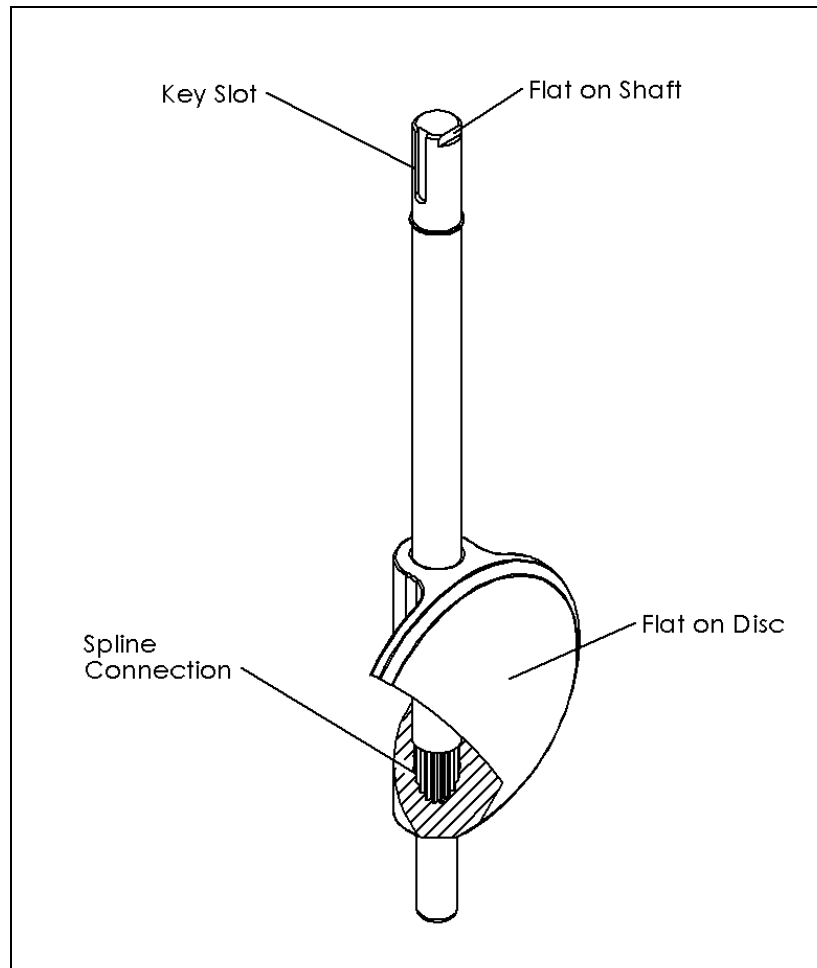

Figure 3—Disc/Shaft Alignment
4. Position the flat on shaft (A3) so that it is parallel to and on the same side of the flat on the disc (A2). See Figure 3 for disc/shaft alignment. Then slide and fully engage the shaft spline with the disc spline (shaft will bottom out in disc bore when fully engaged).